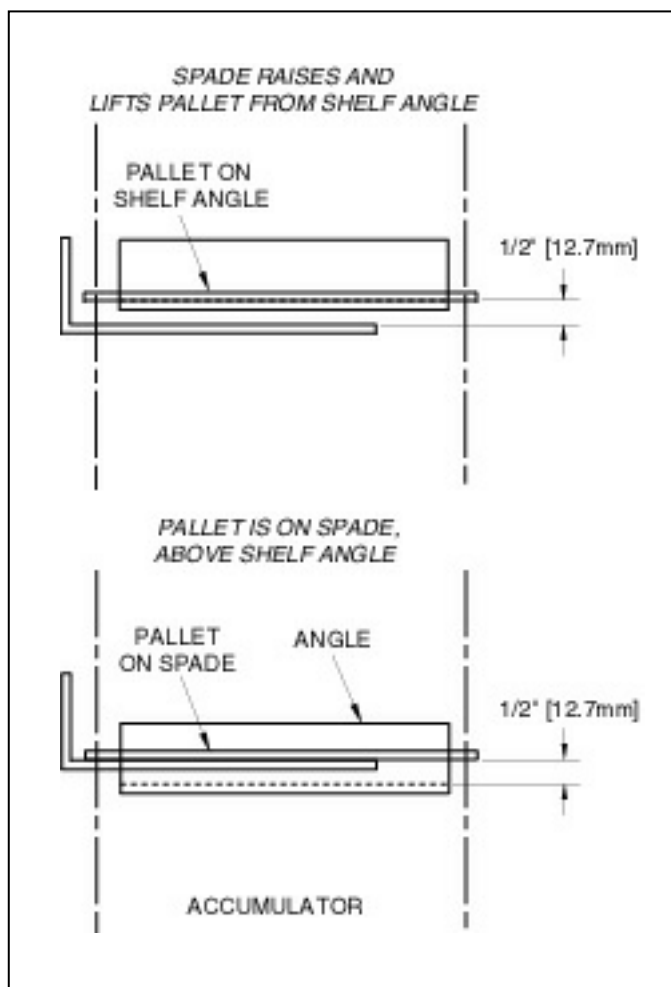

Figure 2.12 SWITCH LS-12 ADJUSTMENT.
2.1.7.5 Manually move the spade (see section 4.2) into the Accumulator. Then move spade up and down until bottom of pallet is 1/2" [12.7mm] above shelf angle (see figure 2.12). Then, move cam until switch LS-12 is actuated (screen will indicate that switch has been tripped).